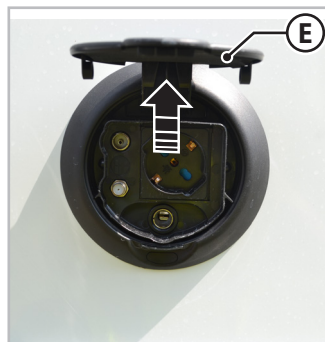

Fig.6.34 - External multimedia socket
2. Lift the cover (E - Fig.6.34) of the socket located on the side of the vehicle.